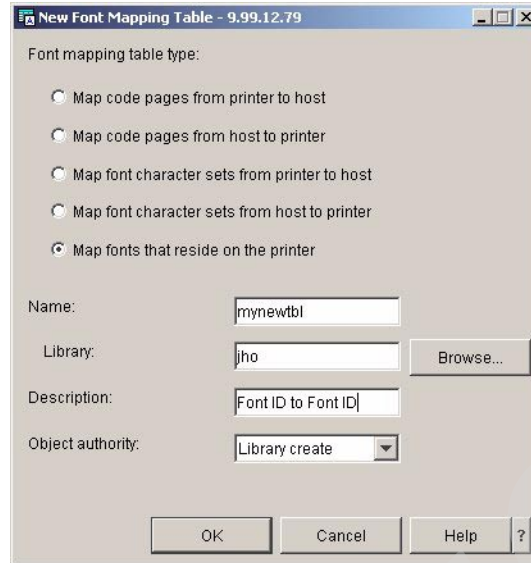

Figure 163. New Font Mapping Table
2. The New Font Mapping Table display (Figure 163) appears. Specify a name for the new PPFCS font mapping table. The name cannot be more than 10 characters long and must meet OS/400 name requirements. This option is only available for PPFCS font mapping tables. If you create any other type of font mapping table with this tool, it is named by PSF/400.